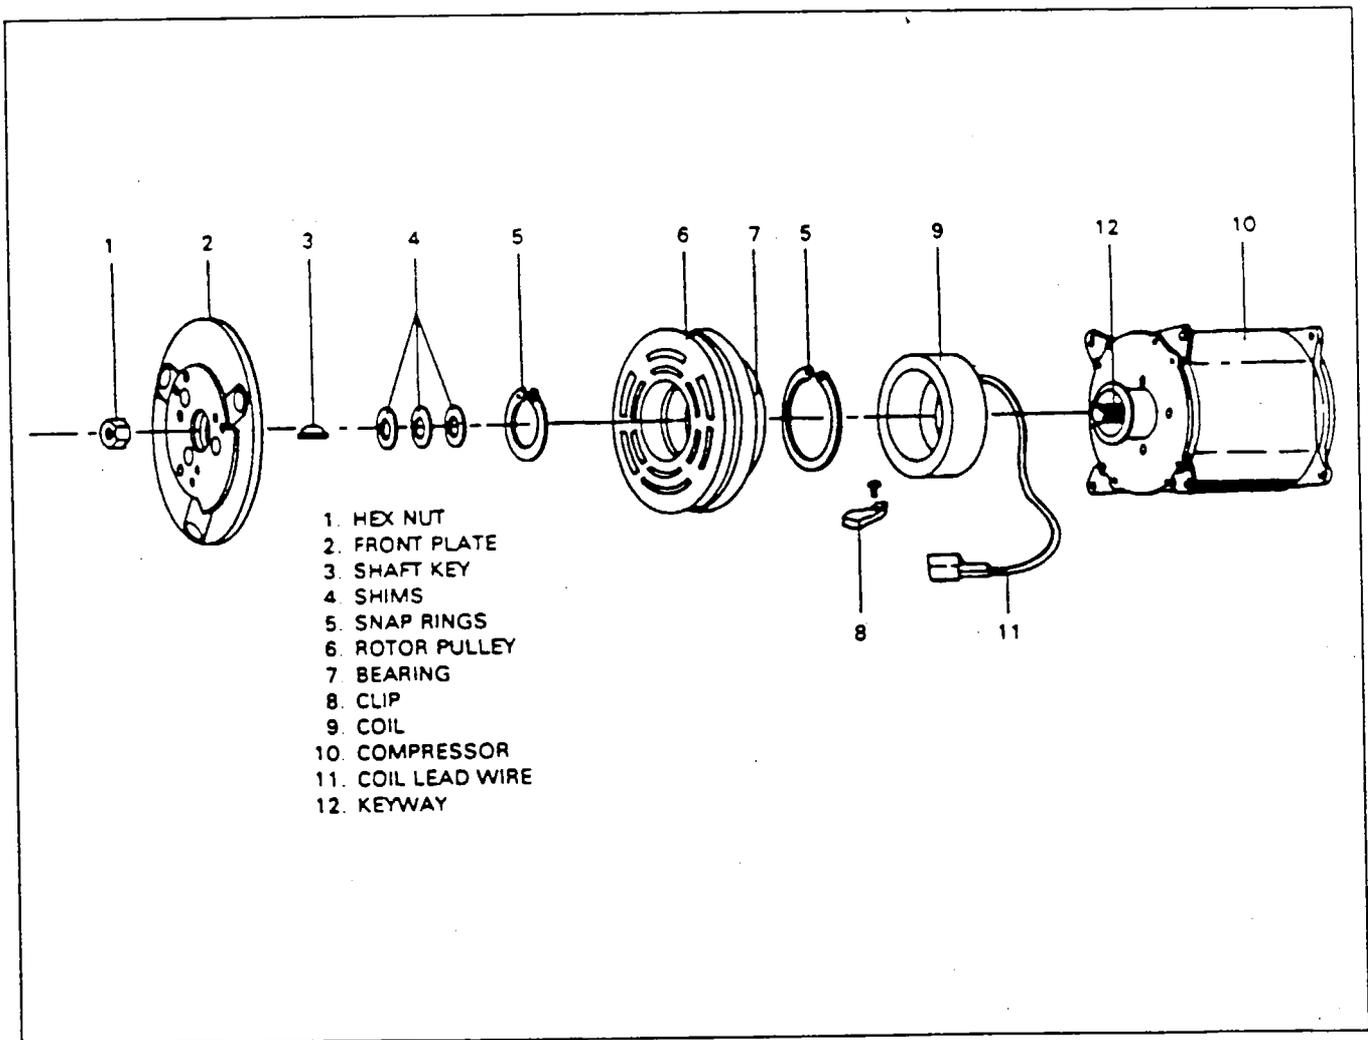

Figure 21-30. Magnetic Clutch Assembly
**REMOVAL OF CLUTCH, PULLEY AND COIL. (Refer to Figure 21-30.)**
**INSTALLATION OF CLUTCH, PULLEY AND COIL, (Refer to Figure 21-30.)**